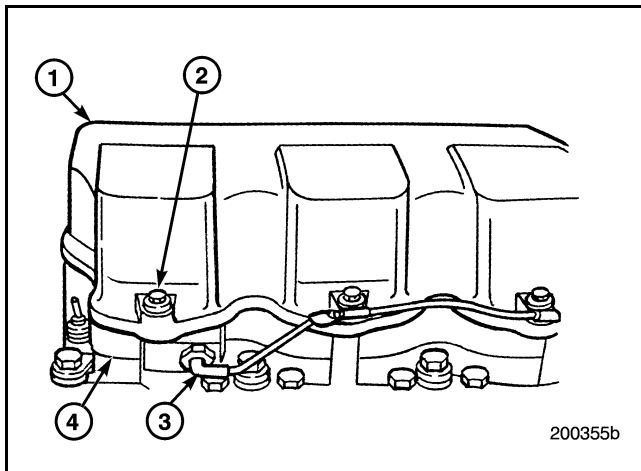

Figure 394 — Cylinder Head Cover Installation
6. Place the cylinder head covers in position on the cylinder heads or on the J-Tech™ spacers (if so equipped) as shown in Figure 394.